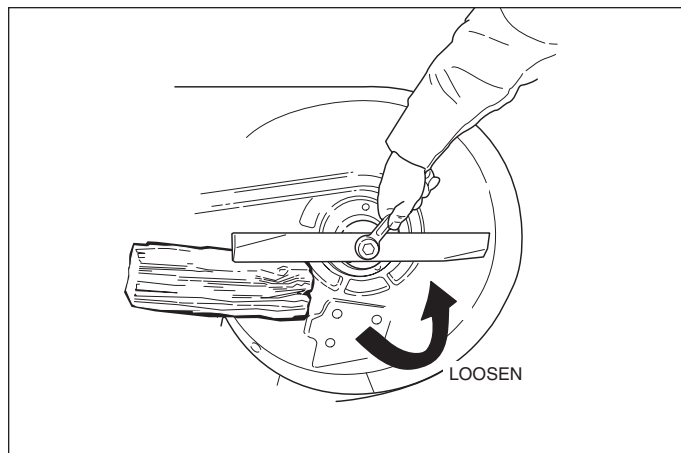

Figure 14 - Removing the Blade
3. To remove the blade, use a wood block to hold blade while removing the blade mounting capscrew (Figure 14). Note: Hex head bolt shown. Your mower may be equipped with a socket head capscrew.